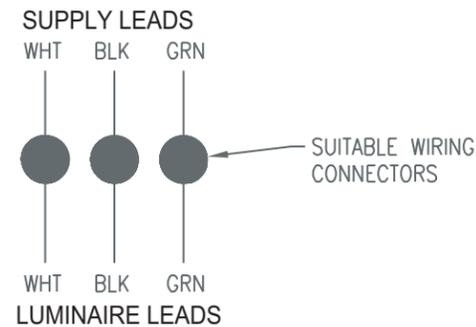

FIGURE 2
4. Lay pole on raised surface. Protect pole finish with soft cloth. See Figure 2.
9. Wire luminaire per local code and the National Electrical Code. See Figure 2.